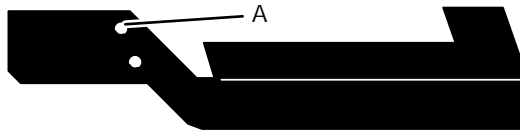

Figure 2.15. There are two holes in the manual cut lever. Attach the lever to the cutter shaft at A.
Step 6: Attach the manual cut lever. See Figures 2.15 and 2.16.